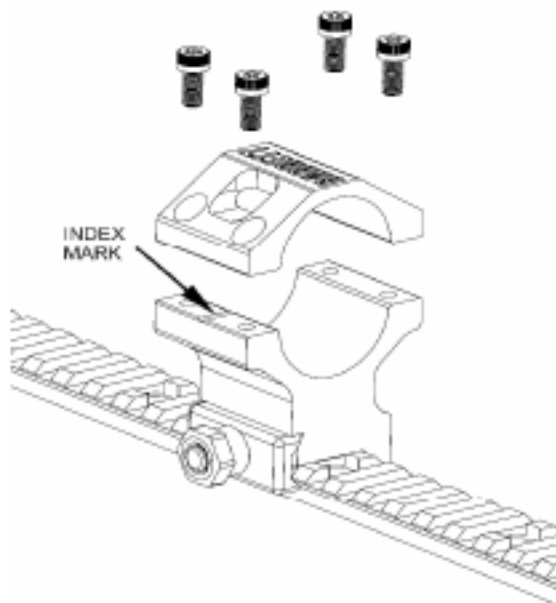

Figure 2-10
13. Fully tighten two socket head cap screws on the indexed side of the front scope ring. Use Loctite® if desired. Tighten to approximately 35in/lbs. The rings are designed to be fully tightened on the indexed side before tightening the opposite side screws. The "Barrett" logo on the top ring can be oriented in either direction. Next, tighten the remaining two socket head Torx® screws on the opposite or "gap" side of the scope ring to 35 in/lbs or 3.95 Nm. Use Loctite® if desired. See figure 2-10.